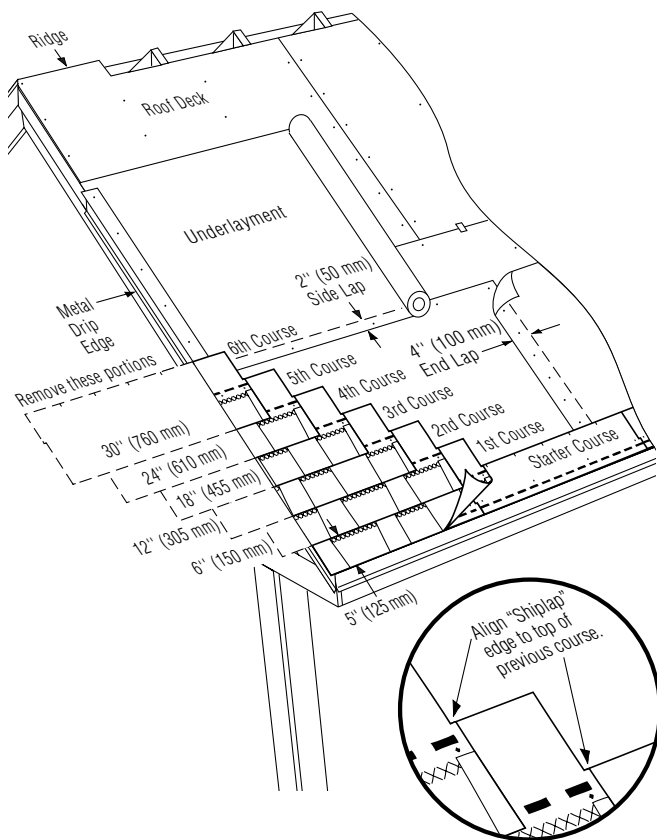

Figure 14-8: Applying the first six courses on a standard slope.
**1ST COURSE:** Remove the  $\frac{3}{8}$ " x 5" shiplap piece from the upper left corner of a full shingle. Apply this shingle at the lower left corner of the roof. Make the lower edges and left edge lie flush with the edge of the starter course (Figure 14-8).
1. Cut 6" off the left end of the first shingle and apply the remaining 30" piece over and above the first course shingle. Leave the bottom 5" tab portion of the first course shingle exposed (Figure 14-8).